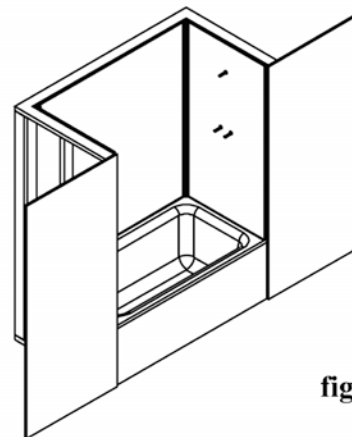

fig 6
10. Carefully lower the counter top into position and press firmly into place. See figure 6.